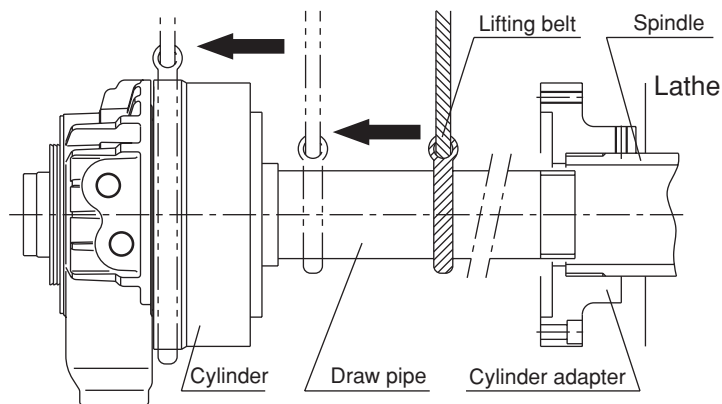

Fig.15
- When removing/installing the cylinder, use a lifting belt and perform as follows. (Fig.15)